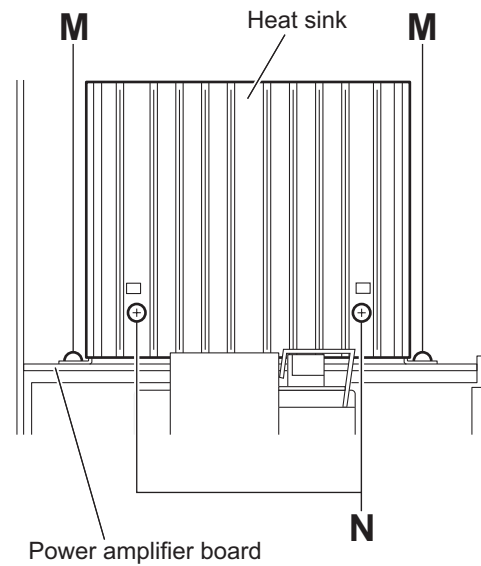

Fig.19
3.1.11 Removing the heat sink (See Fig.19.)